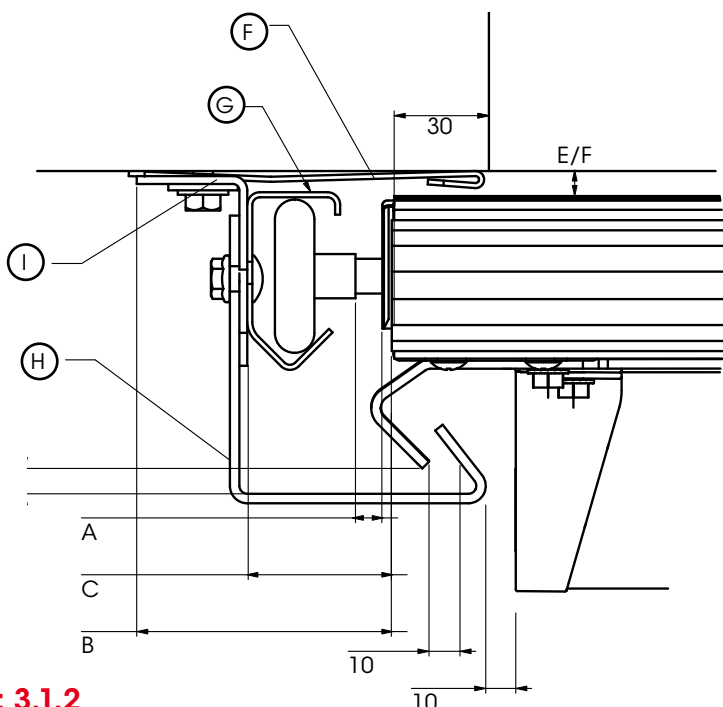

Fig: 3.1.2
- b) Ensure to follow the measurements as shown in Fig 3.1.2 to set out the placement of the track and brackets. The fixing points should be spaced at 300-400mm centres.
- c) Take note of the positioning of the jamb spacer (F) as it must be fitted under the jamb bracket (I) with the rolled edge facing the door as shown in Fig 3.1.2
- d) Once satisfied temporarily fix in position with at least **three (3) fixings** to the top bracket and one to each of the lower track brackets. These will hold the tracks in position and allow for minor adjustments.
- b) Check that the wheels are sitting in the "V" groove of the vertical track on each side and there is sufficient clearance between the panel and the track as per Fig 3.1.2.
Check that the clearance in the vertical tracks as per Fig 3.1.2 is also in the horizontal tracks